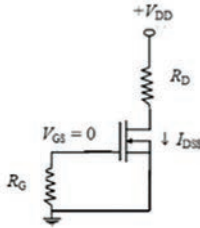

Figure 7.40 Ch 7: No. 21, self-test
21. Determine the values of drain current for the circuit shown in Figure 7.40, if V_{DD} is 12 V , R_D is $1\text{ k}\Omega$, and V_{DS} is 6 V .